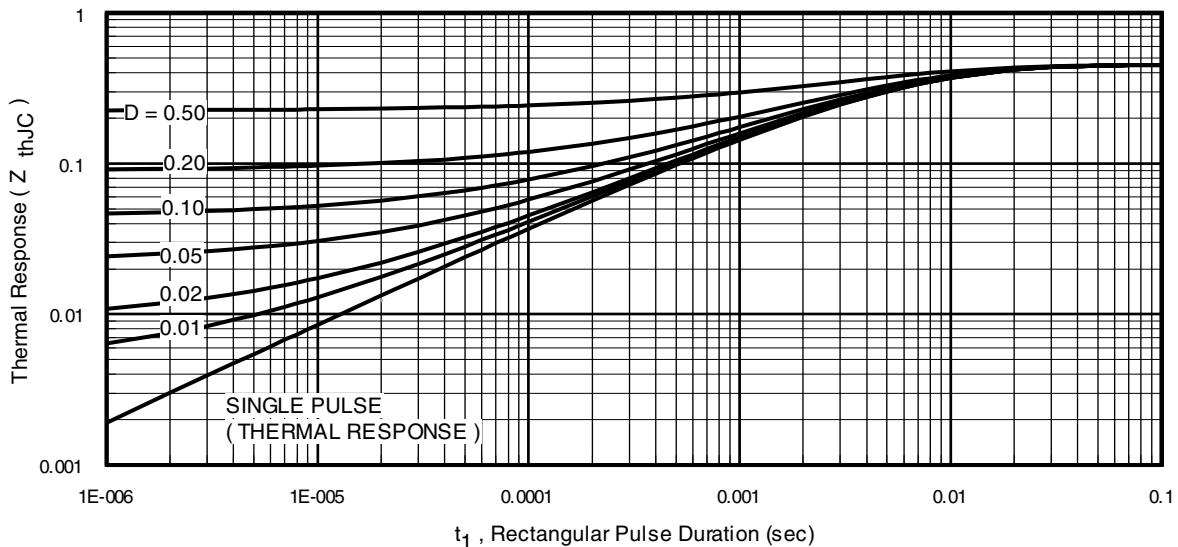
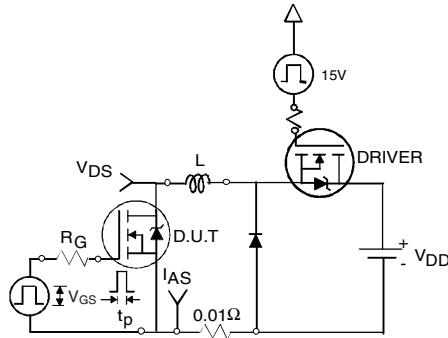

Fig 11. Maximum Effective Transient Thermal Impedance, Junction-to-Case
Fig 12a. Unclamped Inductive Test Circuit
- ① Repetitive rating; pulse width limited by max. junction temperature. (See fig. 11).
- ② Limited by $T_{J\text{max}}$, starting $T_J = 25^\circ\text{C}$, $L=0.24\text{mH}$, $R_G = 25\Omega$, $I_{AS} = 75\text{A}$, $V_{\text{GS}} = 10\text{V}$. Part not recommended for use above this value.
- ③ $I_{SD} \leq 75\text{A}$, $di/dt \leq 220\text{A}/\mu\text{s}$, $V_{\text{DD}} \leq V_{(\text{BR})\text{DSS}}$, $T_J \leq 175^\circ\text{C}$
- ④ Pulse width $\leq 1.0\text{ms}$; duty cycle $\leq 2\%$.
- ⑤ $C_{\text{oss eff.}}$ is a fixed capacitance that gives the same charging time as C_{oss} while V_{DS} is rising from 0 to 80% V_{DSS} .
- ⑥ Limited by $T_{J\text{max}}$, see Fig.12a, 12b, 15, 16 for typical repetitive avalanche performance.
- ⑦ This value determined from sample failure population. 100% tested to this value in production.
3. Equation below based on circuit and waveforms shown in Figures 12a, 12b.
$Z_{thJC}(D, t_{av})$ = Transient thermal resistance, see figure 11)